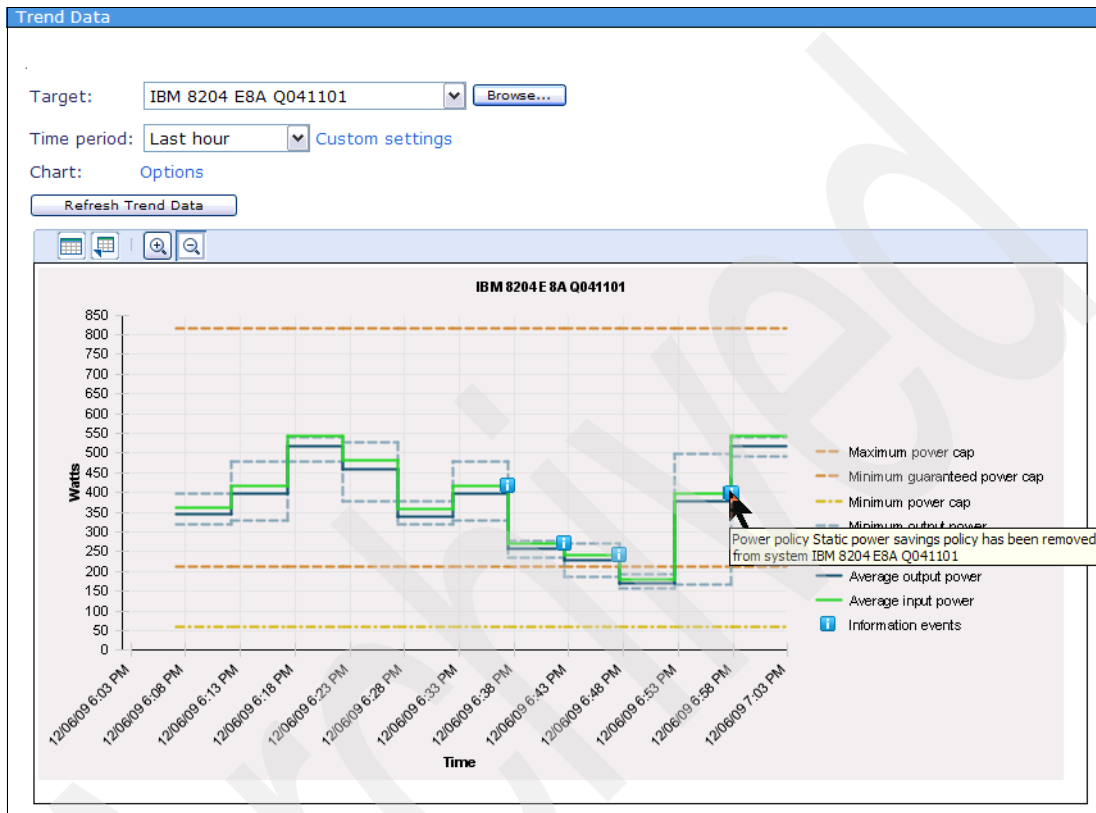

Figure 7-67 Using a deactivation policy - 1
- You can confirm that the initial policy has been deactivated by checking the trend data for the selected systems. An example is shown in Figure 7-67. It shows that the example policy that we previously activated in 7.5.3, “Applying a policy” on page 341 is now deactivated using a deactivation policy.